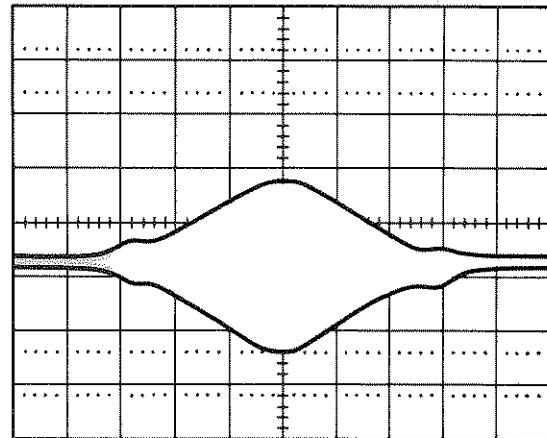

Figure 5-40. 50 MHz Birdie
5. Adjust oscilloscope Channel B vernier for a horizontal deflection of exactly 10 divisions. Set 8350A CF = 1 GHz, $\Delta F = 10$ MHz. Select 50 MHz Markers. Center the birdie envelope on the screen with plug-in front panel FREQ CAL control. (See Figure 5-40.) Then select 10 MHz Markers. Change ΔF to 1 MHz. Recenter birdie. Display is now calibrated for 100 kHz/Division.